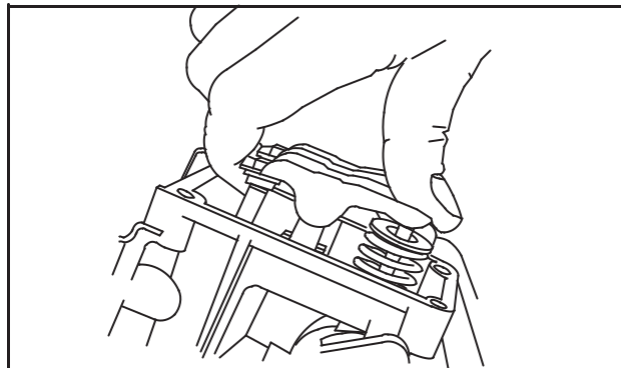

Fig. 18 – Install Push Rods
- a. Compress valve springs and insert push rods into recess in rocker arm adjustment screws, Fig. 18.